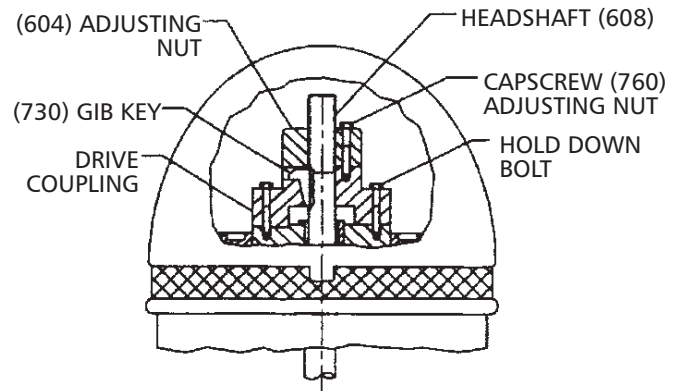
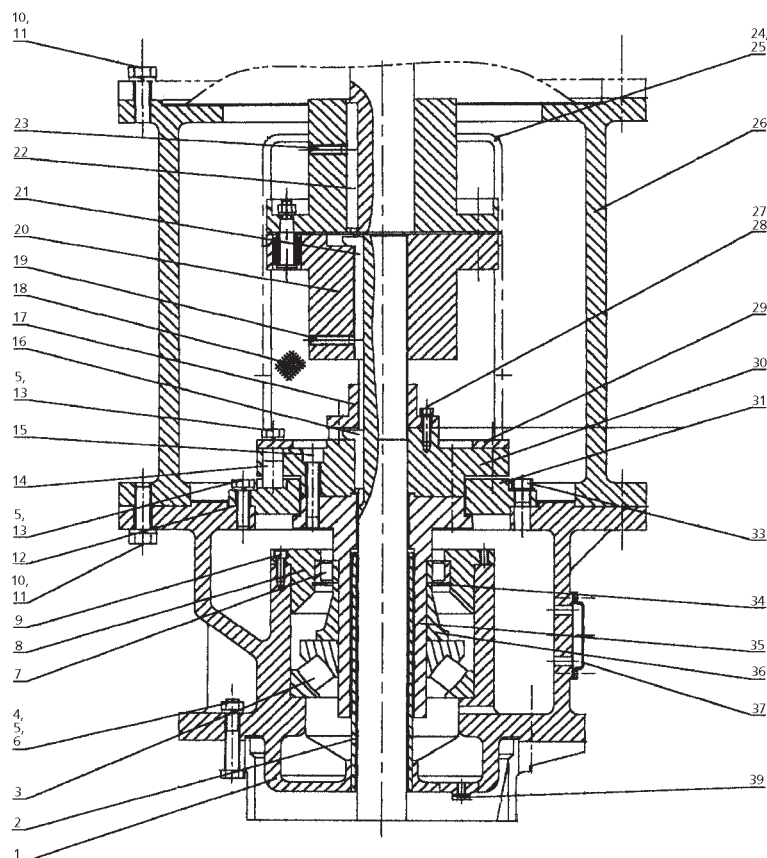

Figure 12
Figure 19 – Oil Lubricated Thrust Pot
1. The driving mechanism of all hollow shaft driver is shown on Figure 12. The head shaft (608) extends up through the quill or hollow shaft of the driver and is held in place by an adjusting nut (604), which not only carries all the static and hydraulic thrust of the impellers and shaft, but also provides the adjustment for the impeller clearances. The head shaft is connected to top shaft (or stub shaft) by a threaded coupling or a rigid flange coupling.
6. After lowering and orienting the driver as explained above, remove the drive coupling and the hold down bolts (See Figure 12). **Be sure to mark the location of the coupling before removing it.**
If the unit is supplied with a thrust pot (see Figure 19), the thrust pot should be installed on top of the discharge head or motor stand before installing the driver. The driving mechanism of the thrust pot assembly is similar to the hollow shaft motor. (See Figure 12)
### OIL LUBRICATED THRUST POT (SEE FIGURE 19)